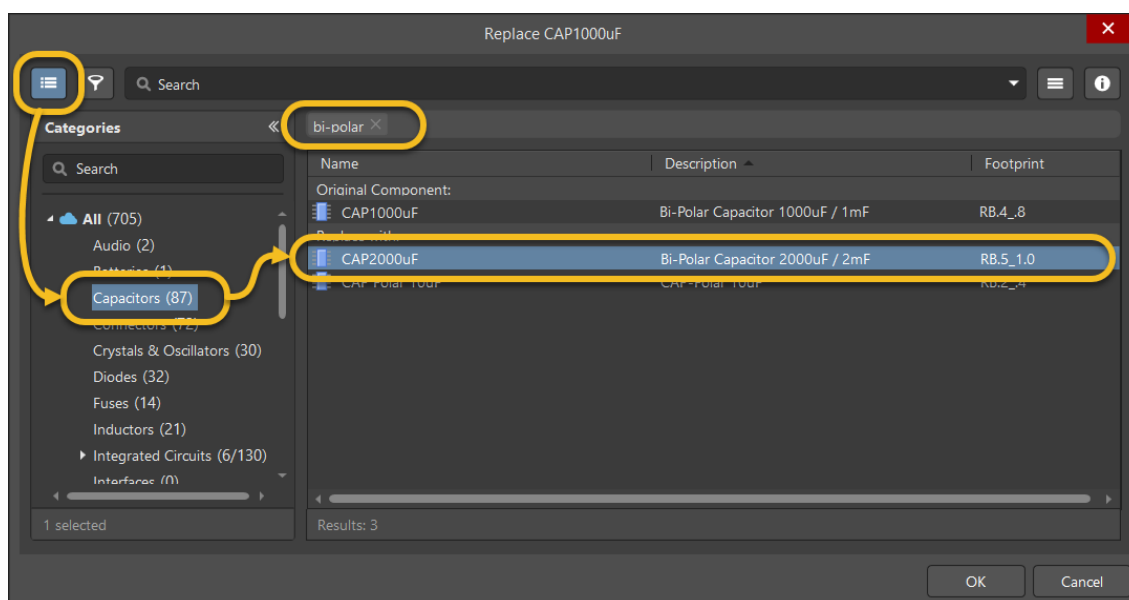

Figure 14. Alternate part selection
51. To view the available libraries and components, click the triple line icon to expand the panel, as shown in Figure 14.